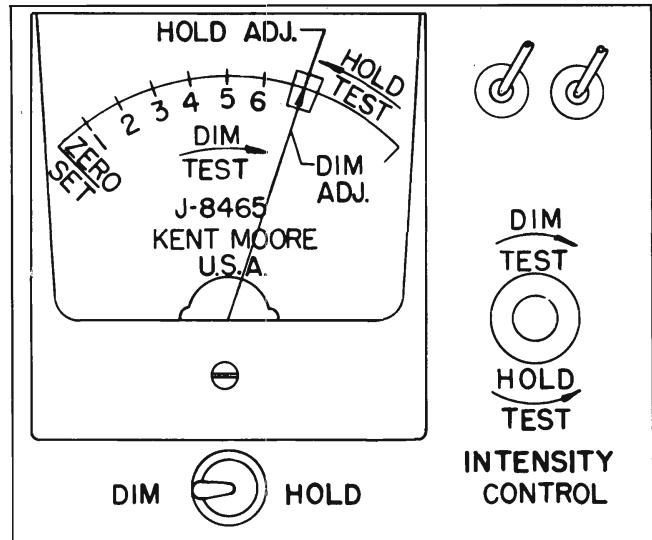

Fig. 12-13 J-8465 Tester
A new tester J-8456 is required for installing, checking or adjusting the Guide-Matic. The tester includes a vertical aiming device No. 6 and a sensitivity test lamp (Fig. 12-13).
2. Install tester lamp (Fig. 12-13).